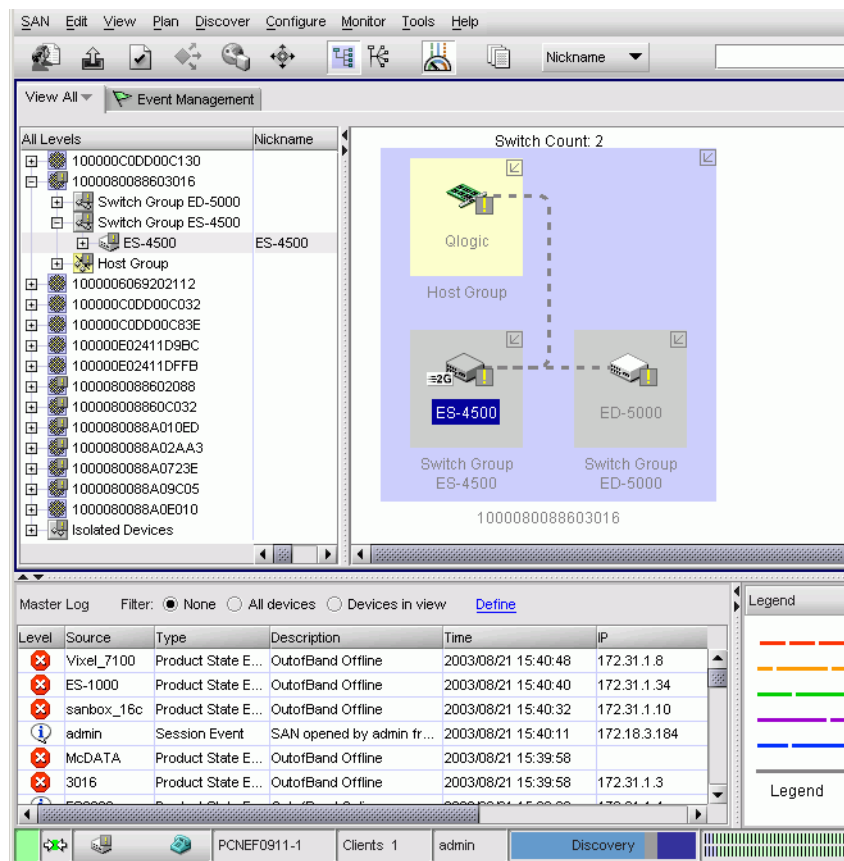

Figure 3-4 Main Window: Example (EFCM or SANavigator)
- f. Type a user ID and password, and click *Login*. The SAN management application opens and the EFCM or SANavigator main window displays (Figure 3-4).